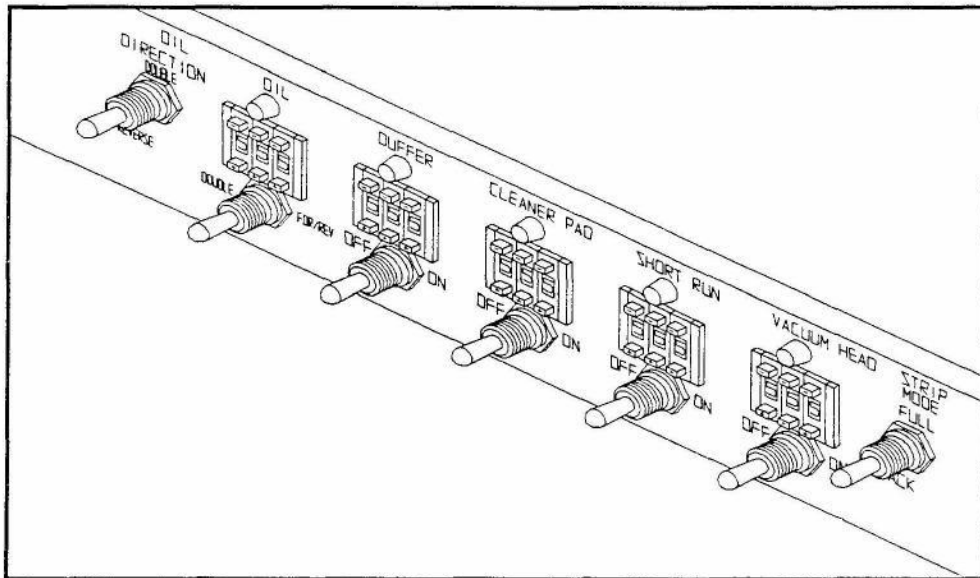

Figure 6
9. For GEMINI machines, select the section of the lane to be stripped. The strip switch should be turned to the full or back position. If the back end only is being stripped, the vacuum head counter must be set to the correct distance from the foul line where the back end stripping should begin. The cleaner pad counter should be set to the correct distance from the foul line where the cleaning pad should pick up away from the lane surface. This point of cleaner pad pick up is the same point for either full lane or back end stripping. See Figure 6.